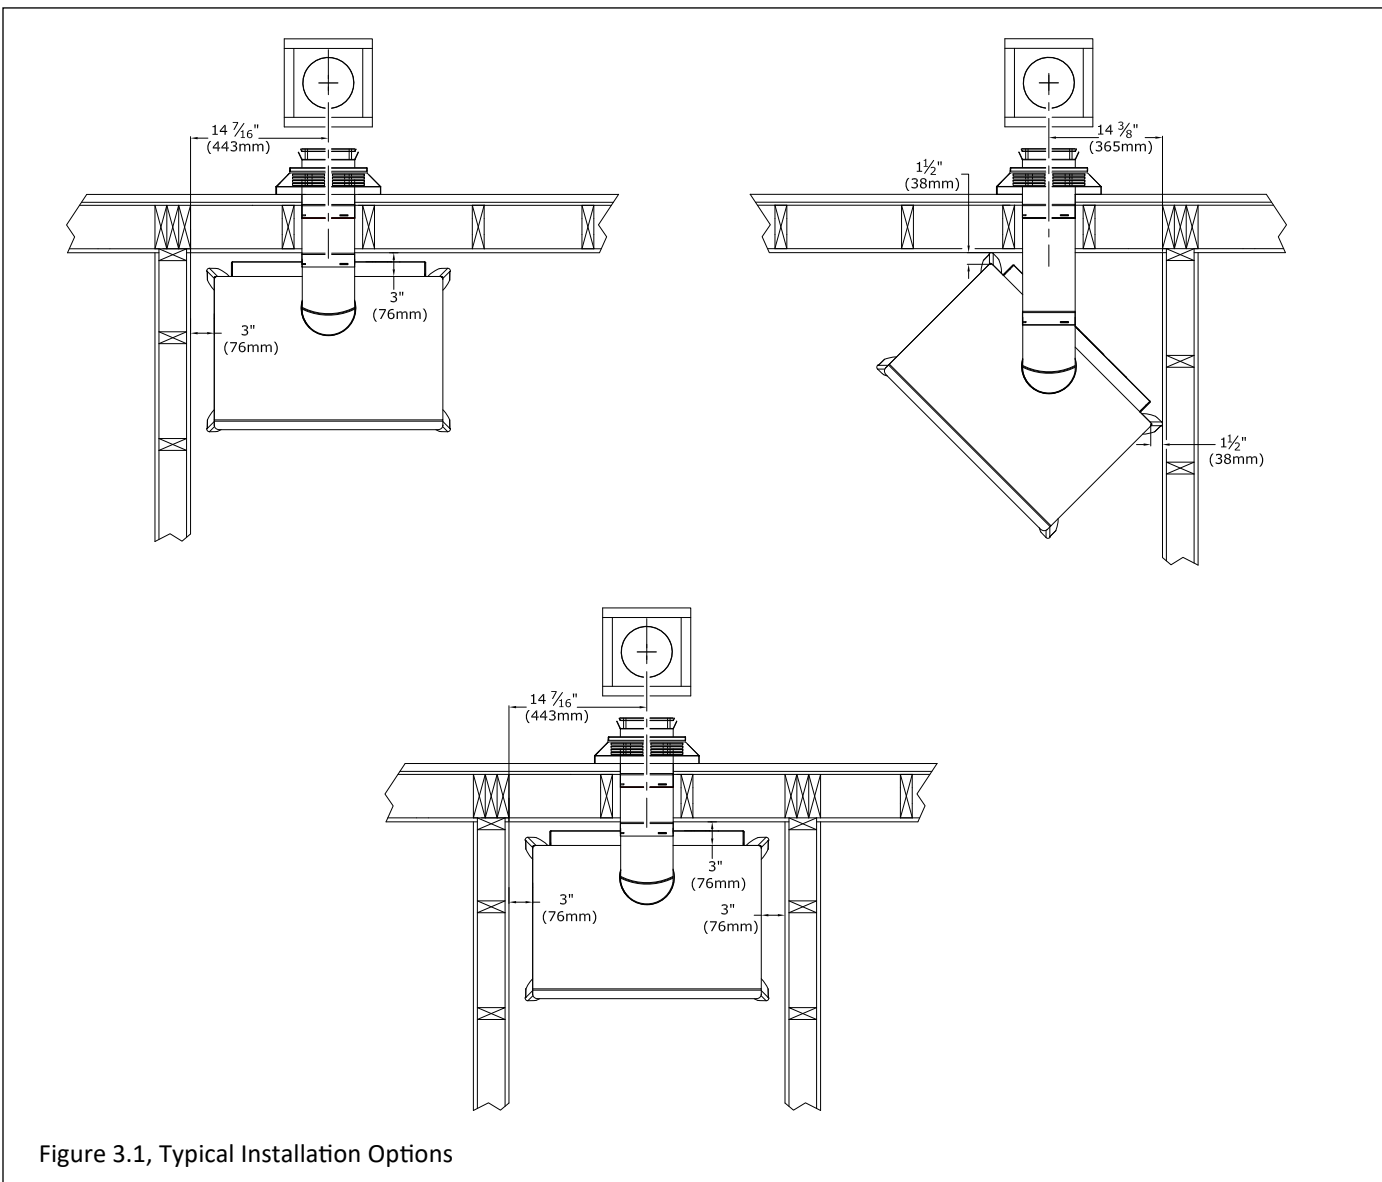

Figure 3.1, Typical Installation Options
- See Figure 3.1 below for minimum clearances for typical installation options.